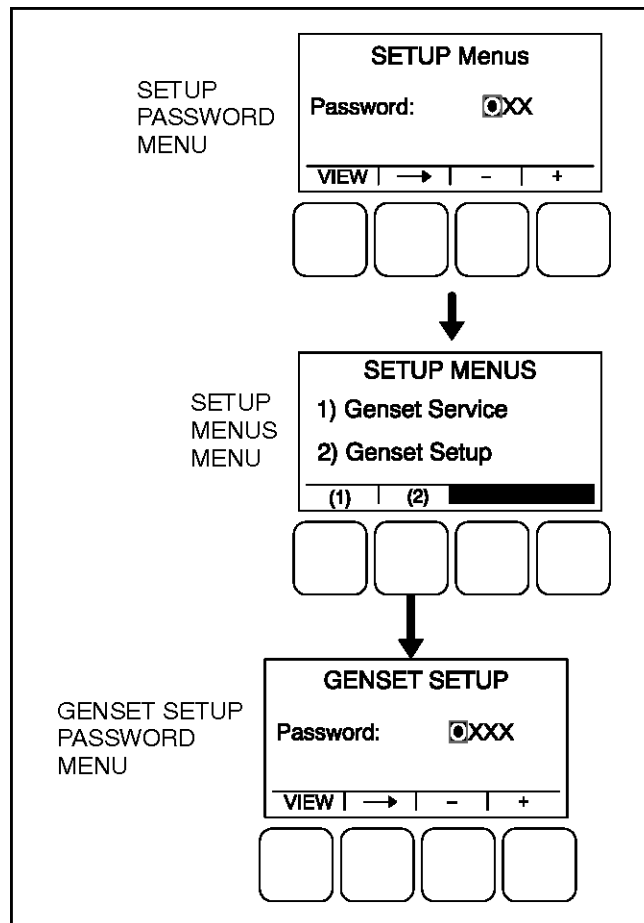

FIGURE 68. SETUP PASSWORD MENUS
3. Enter the password into the Genset Setup menu (Figure 68 on page 121) - see Section 8.3.10.2 on page 123 or press the View only button.
Once the Genset Setup button **(2)** is selected on the Setup Menus menu (see Figure 68 on page 121), the Genset Setup Password menu is displayed.